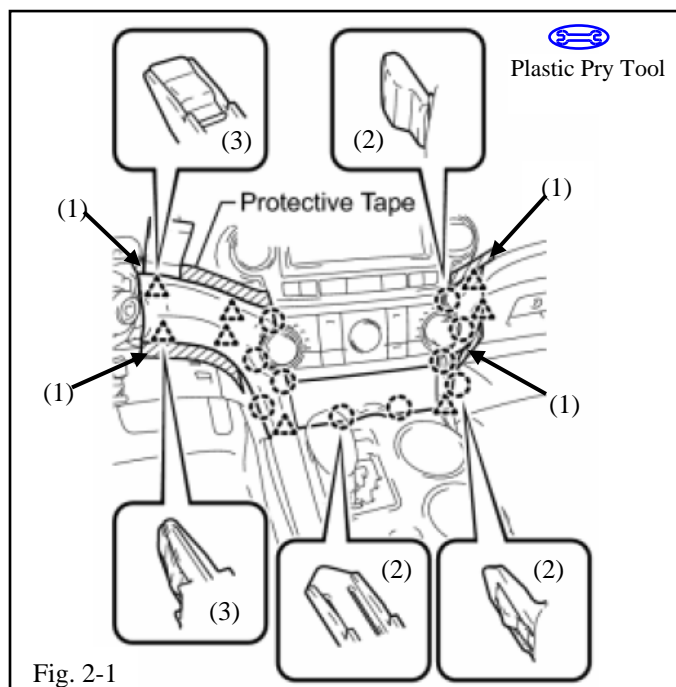

Fig. 2-1
- (a) Apply protective tape (1) to the areas shown. (Fig. 2-1)
- (b) Using a plastic pry tool, disengage the ten claws (2) and eight clips (3) starting from the upper part of the Center Instrument Cluster Finish Panel Assembly. (Fig. 2-1)